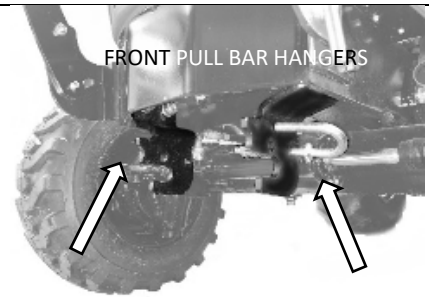
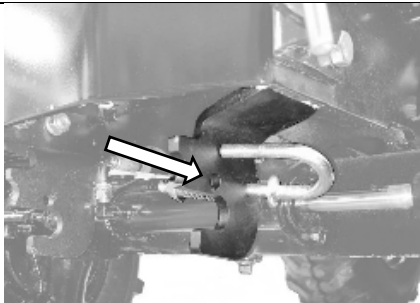

Figure 5B
Figure 6B
5. On the inside of the frame, align the corresponding holes of the Front Pull Bar Hangers (items 10 and 11) with the bottom holes on the tractor frame and secure them using the bolts and nuts removed in the previous step. Item 10 includes the J-Bolt Pin and will be installed on the left side of the tractor (figure 5B). Leave the J-Bolt Pin in the “unlocked” position as indicated in figure 6B.